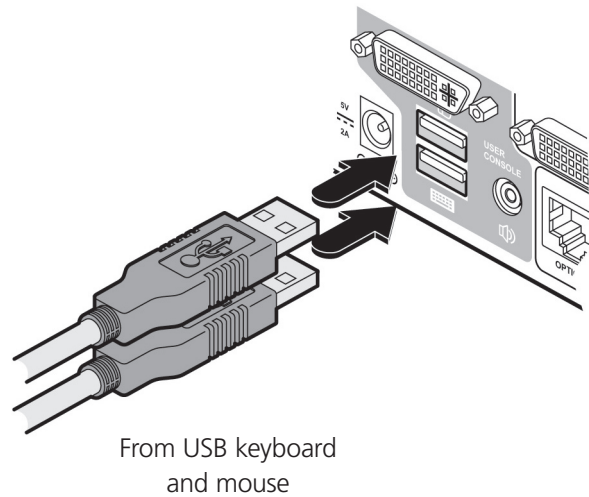

Figure 3-2. Connecting the keyboard/mouse to the user console.
- 2 Keyboard and mouse: Attach the leads from your USB keyboard and mouse to the USB connectors on the switch that are specifically labeled with keyboard and mouse symbols. The keyboard and mouse will operate in any of the USB connectors, however, True Emulation is not available on connectors labeled USB1 or USB2. See Figure 3-2.